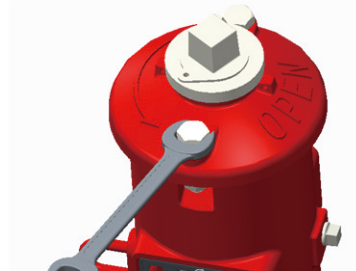

Figure 3
- 2.1 Remove two bolts and nuts from the top section of the indicator (Figure 3).